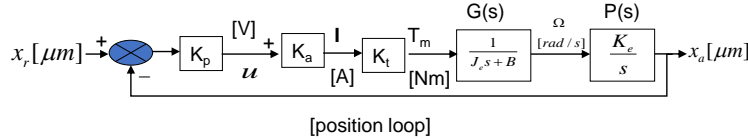

Figure 2: Proportional position controller.
3. (15) Design an over-damped proportional position loop controller ( $K_p$ ) with a damping ratio of  $\varsigma = 1.1$  (Figure 2). Neglect the D/A controller between the computer and amplifier, hence treat the complete servo drive as a continuous system. (Derive it symbolically first and use the parameters from question 2 to obtain numerical results).
4. (10) Express the FRF of the closed loop system with the proportional position controller (Figure 2) gain  $K_p$ . (Derive it symbolically first and use the parameters from questions 2 and 3 to obtain numerical results).
5. (20) Show the discrete time state space model of the **continuous** closed loop position controller (Figure 2) system with a sampling time interval of  $T_s$ . Just show the derivations symbolically without numerical calculations.